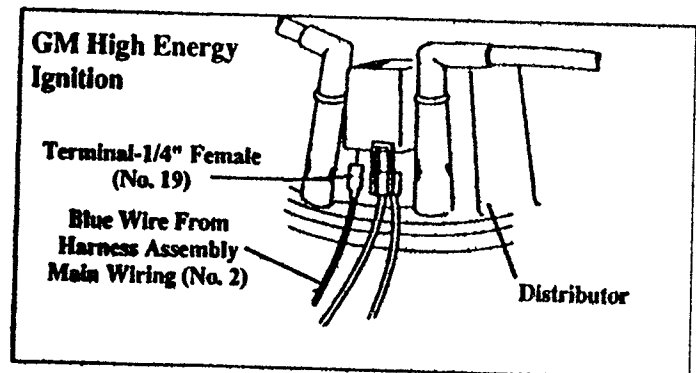

Figure 38
- B. A terminal on the distributor marked "Tach" (most GM high energy ignition systems) Figure 38
A. For terminal on GM distributor Figure 38, crimp the Terminal -1/4" Female on the end of tach wire and plug into distributor.